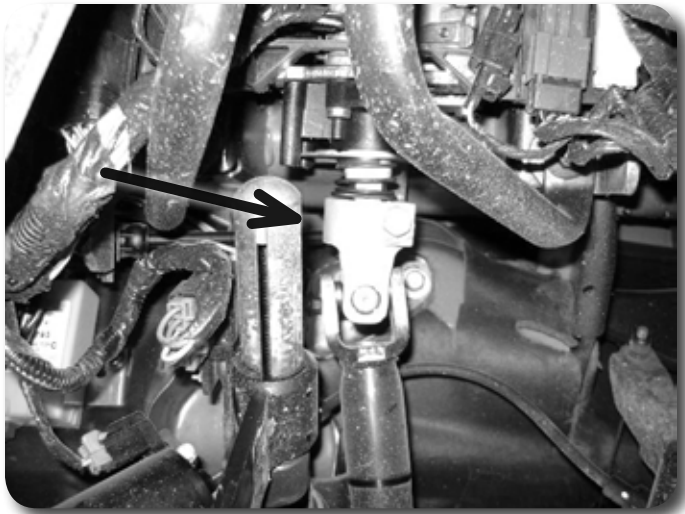

Figure 4A
13. Located under the dash, remove the bolt that connects the steering shaft universal joint to the steering column and separate the steering shaft from the steering column. **Figure 4A** Save bolt.